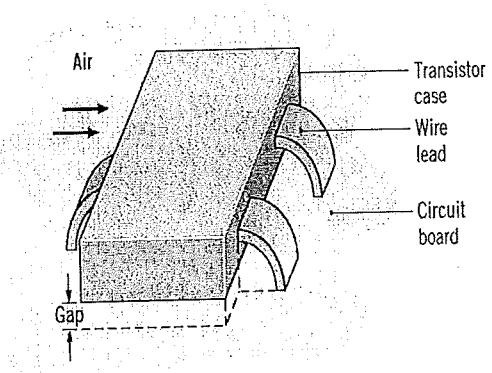

Figure 6 : A surface mount type transistor.
- [b] Insulating power of a wall is given in Figure 5 below. The "insulating power" of a wall can be measured by means of the arrangement shown in the Figure 6. One places a plastic panel against the wall. In the panel, two thermocouples are mounted flush with the panel surfaces. The thermal conductivity and thickness of the plastic panel are known. From the measured steady-state temperatures shown in the Figure, estimate in SI units the following properties. It is given  $1 \text{ Btu} = 1055.056 \text{ J}$ .
- [b] Consider a surface-mount type transistor on a circuit board as shown in Figure 6 whose temperature is maintained at 35°C. Air at 20°C flows over the upper surface with dimensions 4 mm by 8 mm with a convection coefficient of 50 W/m2.K. Three wire leads, each of cross section 1 mm by 0.25 mm and length 4 mm, conduct heat from the case to the circuit board. The gap between the case and the board is 0.2 mm. Assuming the case is isothermal and neglecting radiation, estimate the case temperature when 150 mW was dissipated by the transistor at the following conditions.